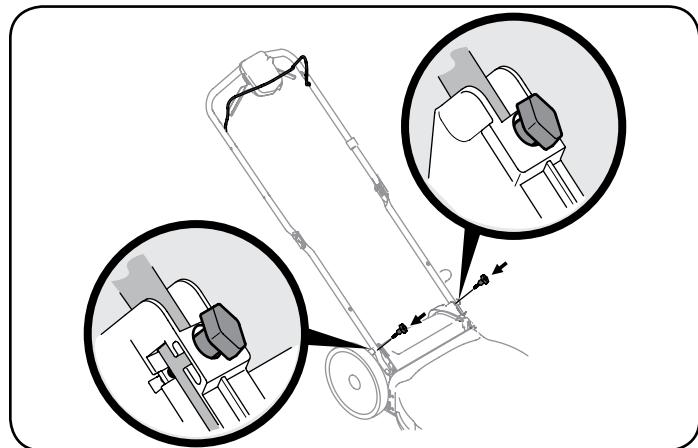

Figure 4
6. Insert the T-bolts removed in Step 1a through the handle brackets and lower handle and tighten securely to secure the handle in place. See Figure 4.